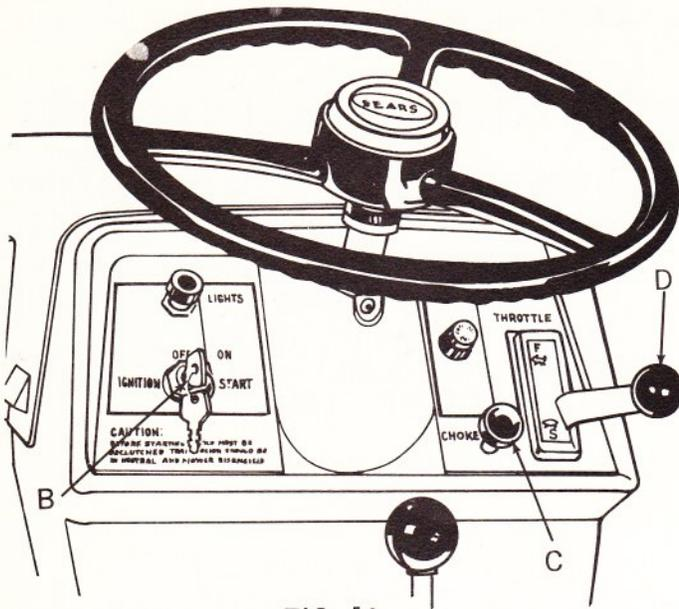

FIG. 10
5. Turn key (B, Fig. 10), in ignition-starterswitch clockwise to engage starter. When engine starts, release key. After engine starts, move throttle control lever (D), to fast position. Let engine warm up, before applying load. CAUTION: Do not run starter continuously for more than 30 seconds at a time. If after several attempts engine does not start, move throttle control lever (D), to fast position. Wait for two minutes, then try again.
6. To stop engine, turn key (B, Fig. 10), in a counterclockwise direction to OFF position. Key should be removed so children can not start Tractor.